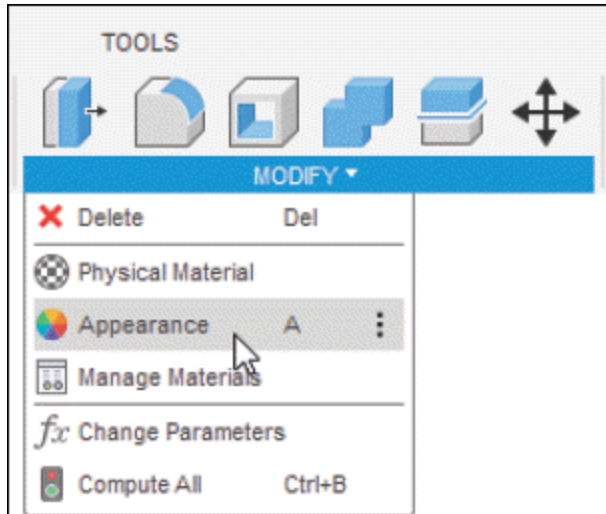
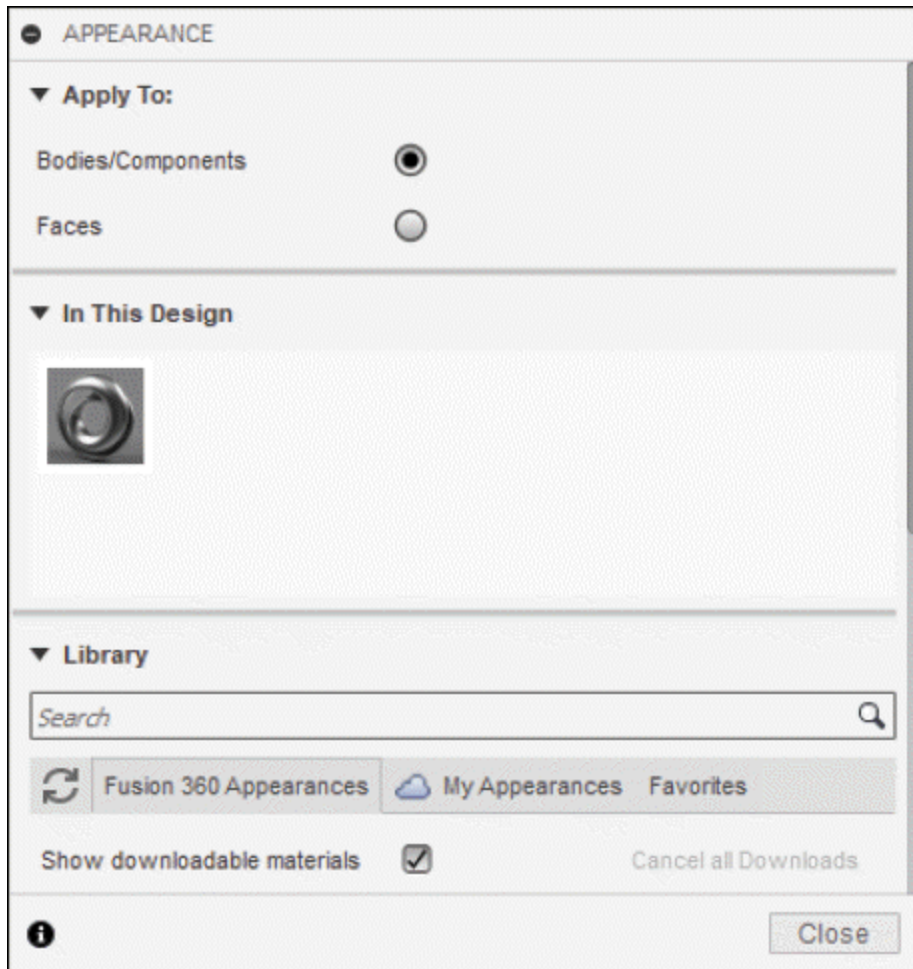

Figure-71. Appearance tool
Figure-72. APPEARANCE dialog box
- Click on the **Appearance** tool of **MODIFY** drop-down from **Toolbar**; refer to Figure-71. The **APPEARANCE** dialog box will be displayed; refer to Figure-72.